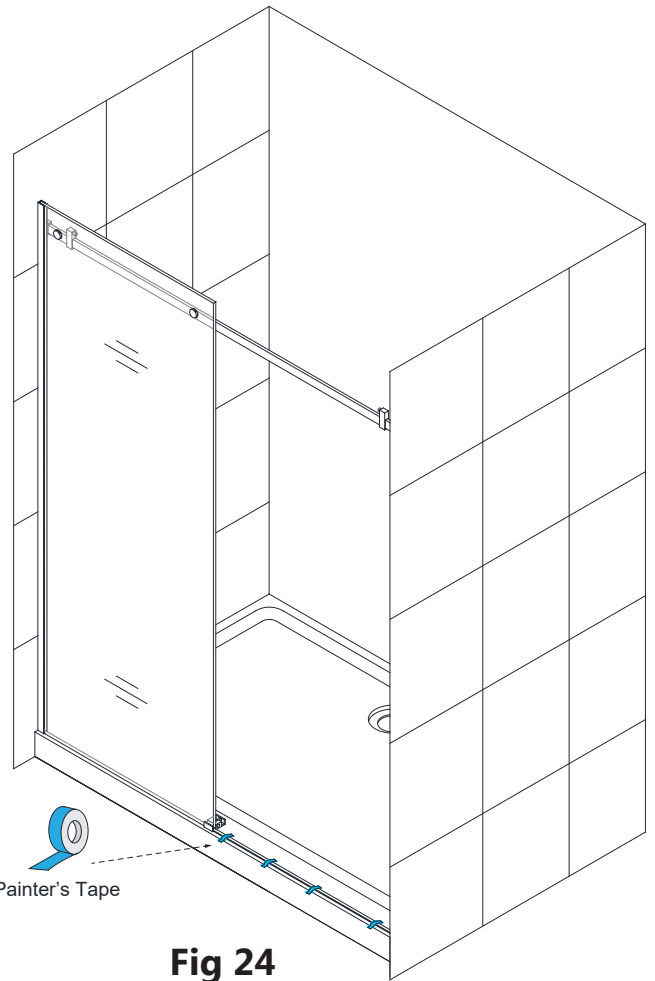

Fig 24
24. Secure the **Anti-Splash Threshold (#11)** to the threshold with several pieces of painter's tape to hold it tight to the threshold until the silicone fully cures. **(Fig 24)**